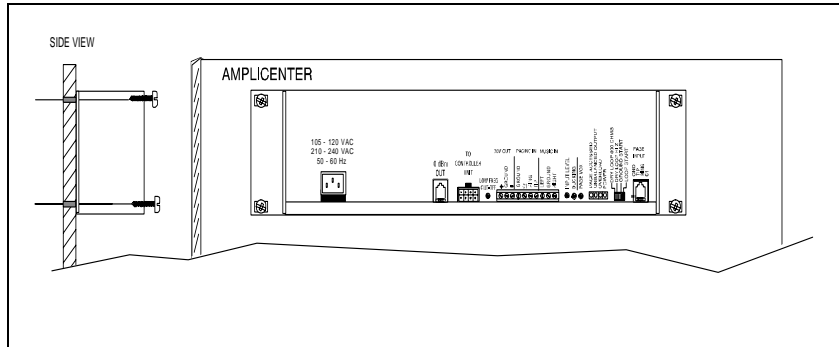
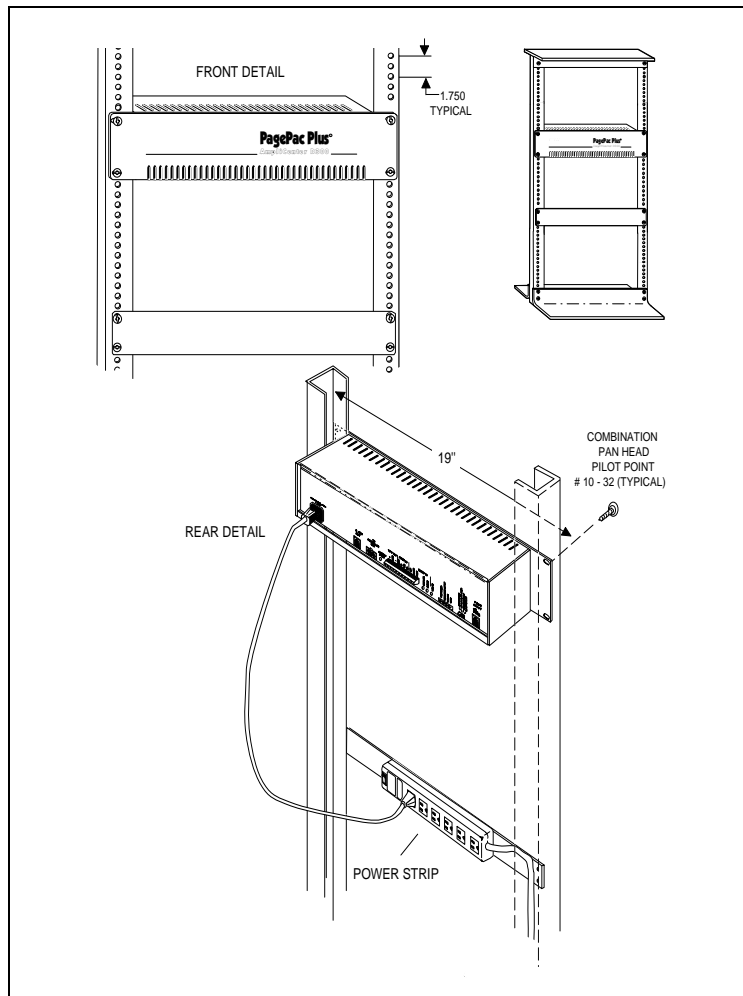

Figure 1. Wall Mounted Hardware
Figure 2. Rack Mounted Hardware
1. Mount the PagePac[®] Plus AmpliCenter to either the wall (Figure 1), cabinet, or a 19 inch rack (Figure 2).